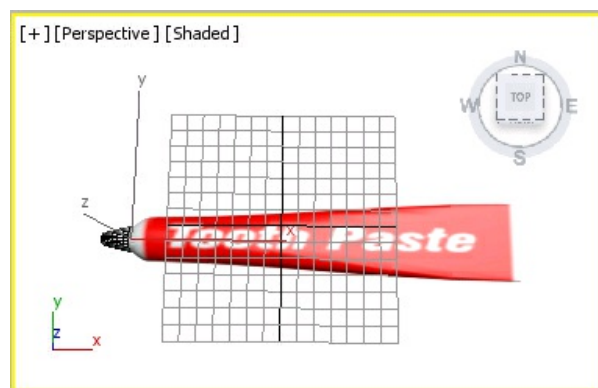

Figure 11-76 The toothpaste tube after the map assigned
14. The toothpaste tube is displayed, refer to Figure 11-76. Close the **Material Editor** dialog box.